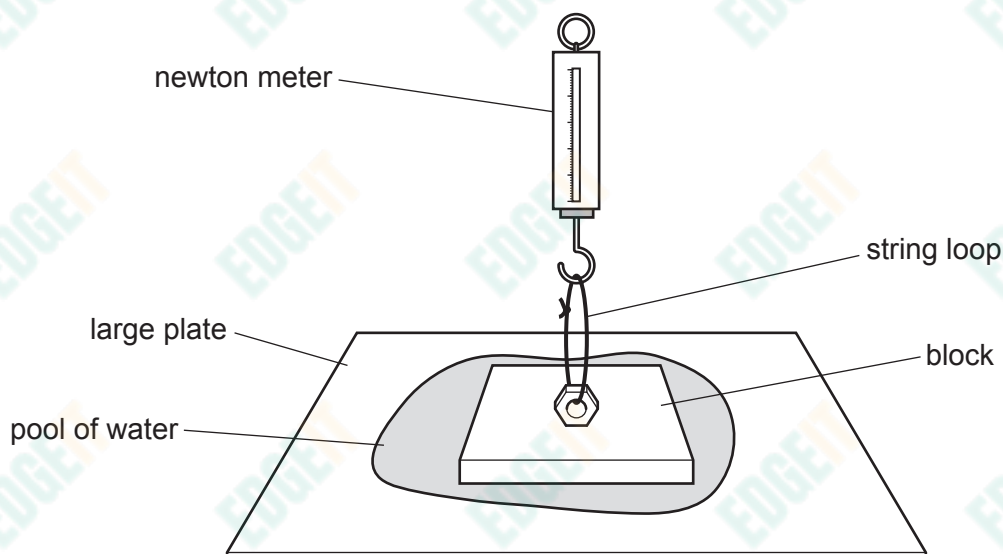

Fig. 2.2
- Place the front face of the transparent block on the pool of water. There should be a film of water over the whole of the front face of the block, as shown in Fig. 2.2.